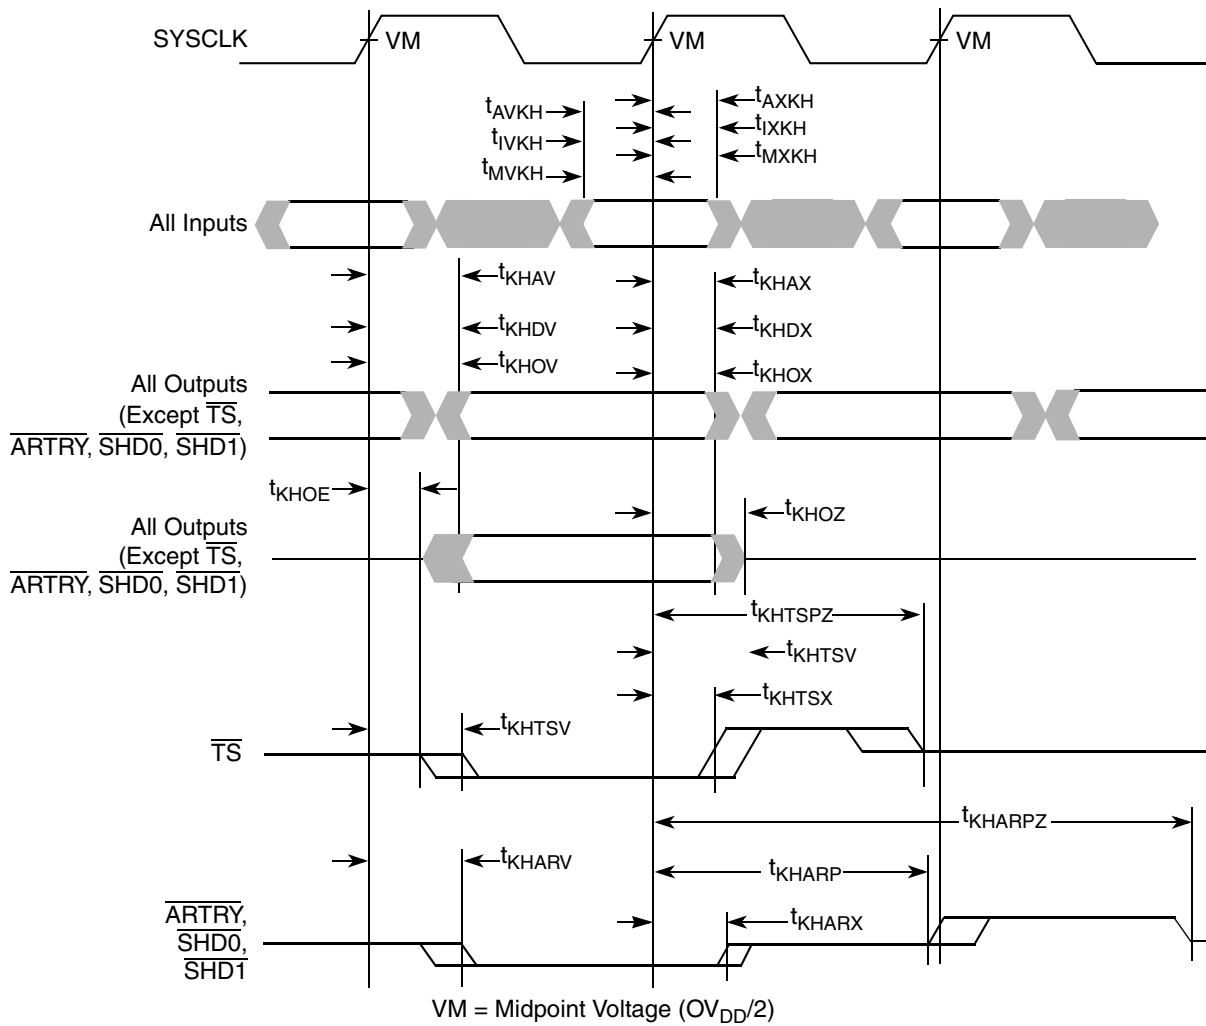

Figure 6. Input/Output Timing Diagram
Table 8 provides the clock AC timing specifications as defined in Figure 6 and represents the tested operating frequencies of the devices. The maximum system bus frequency,  $f_{\text{SYSCLK}}$ , given in Table 8 is considered a practical maximum in a typical single-processor system. The actual maximum SYSCLK frequency for any application of the MPC7457 will be a function of the AC timings of the MPC7457, the AC timings for the system controller, bus loading, printed-circuit board topology, trace lengths, and so forth, and may be less than the value given in Table 8. For information regarding the use of spread spectrum clock generators, see Section 9.1.3, “System Bus Clock (SYSCLK) and Spread Spectrum Sources.” PLL configuration and bus-to-core multiplier information is found in Section 9.1.1, “Core Clocks and PLL Configuration.”
2. The symbology used for timing specifications herein follows the pattern of  $t_{(\text{signal})(\text{state})(\text{reference})(\text{state})}$  for inputs and  $t_{(\text{reference})(\text{state})(\text{signal})(\text{state})}$  for outputs. For example,  $t_{\text{VKKH}}$  symbolizes the time input signals (I) reach the valid state (V) relative to the SYSCLK reference (K) going to the high (H) state or input setup time. And  $t_{\text{KHOV}}$  symbolizes the time from SYSCLK(K) going high (H) until outputs (O) are valid (V) or output valid time. Input hold time can be read as the time that the input signal (I) went invalid (X) with respect to the rising clock edge (KH) (note the position of the reference and its state for inputs) and output hold time can be read as the time from the rising edge (KH) until the output went invalid (OX).
4. According to the bus protocol,  $\overline{\text{TS}}$  is driven only by the currently active bus master. It is asserted low then precharged high before returning to high impedance as shown in Figure 6. The nominal precharge width for  $\overline{\text{TS}}$  is  $0.5 \times t_{\text{SYSCLK}}$ , that is, less than the minimum  $t_{\text{SYSCLK}}$  period, to ensure that another master asserting  $\overline{\text{TS}}$  on the following clock will not contend with the precharge. Output valid and output hold timing is tested for the signal asserted. Output valid time is tested for precharge. The high-impedance behavior is guaranteed by design.
6. According to the bus protocol,  $\overline{\text{ARTRY}}$  can be driven by multiple bus masters through the clock period immediately following  $\overline{\text{AACK}}$ . Bus contention is not an issue because any master asserting  $\overline{\text{ARTRY}}$  will be driving it low. Any master asserting it low in the first clock following  $\overline{\text{AACK}}$  will then go to high impedance for one clock before precharging it high during the second cycle after the assertion of  $\overline{\text{AACK}}$ . The nominal precharge width for  $\overline{\text{ARTRY}}$  is  $1.0 t_{\text{SYSCLK}}$ ; that is, it should be high impedance as shown in Figure 6 before the first opportunity for another master to assert  $\overline{\text{ARTRY}}$ . Output valid and output hold timing is tested for the signal asserted. The high-impedance behavior is guaranteed by design.
Figure 6 provides the input/output timing diagram for the MPC7457.